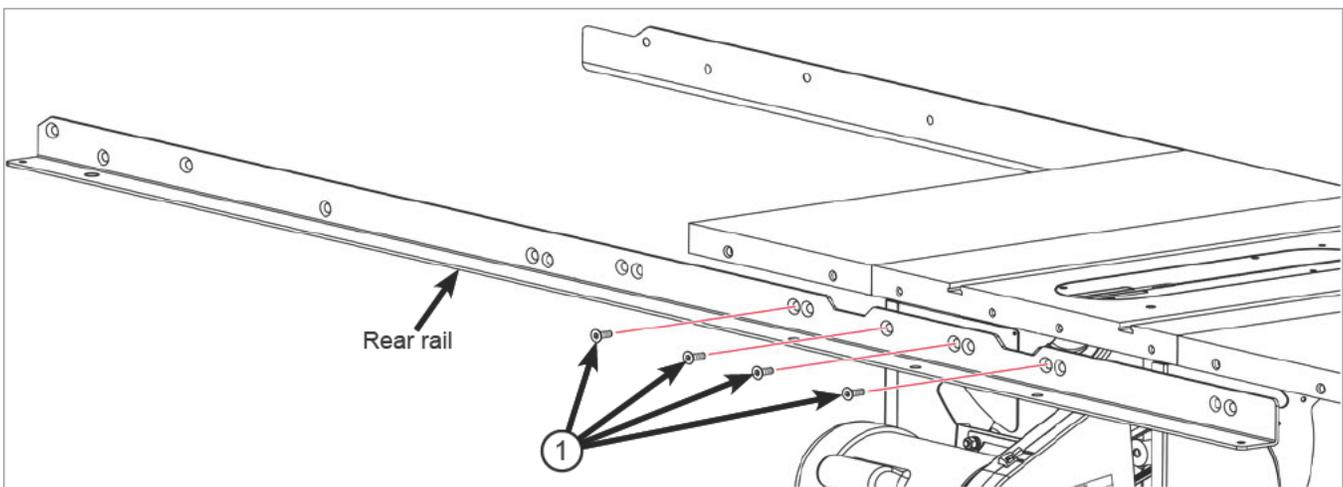

Fig. 12
- Begin mounting the rear rail (the shorter of the two rails) to the rear edge of your saw by centering the notches in the rail with the two miter slots in the table and aligning the left-most hole between the notches with the corresponding hole in the rear edge of the table. There are three holes in the rail between the notches, one solitary hole and two holes paired together, and the left-most hole is the solitary hole. Not all the holes are used to mount the rail to your saw; different holes are used for different saws. Aligning the left-most hole aligns all the other holes used in mounting the rail to your saw. When the holes are aligned, mount the rail to the saw by threading an M8 x 16 countersunk socket head bolt into each of the four open holes in the rear edge of the table and tighten the bolts using a 5 mm hex key (See Fig. 12).